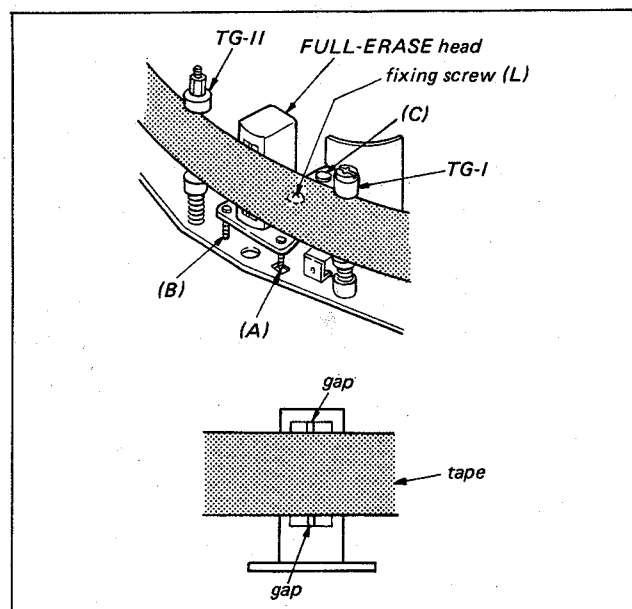

Fig. 6-24. Full erase head height adj. (alignment tape RR5-1 PAL playback mode)
2. Loosen the securing screw (L) shown in Fig. 6-24. Turn the Height Adjusting Screws (A), (B) and (C) of exactly equal amount, in the same direction.